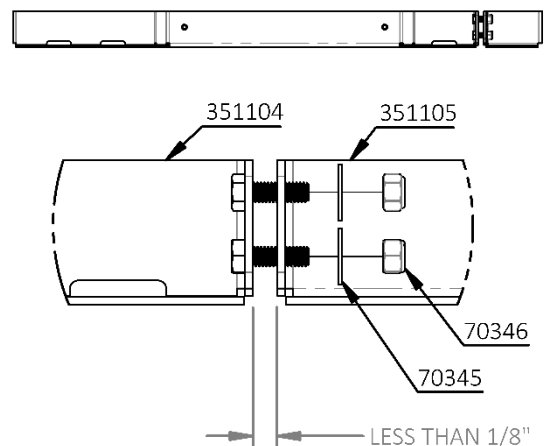

Figure 2: Tension Bar Spacing and Hardware
9. Loosely bolt the tension bar base and the tension bar bracket to the vehicle as shown in Figure 2 using the two 5/16" washers (70345) and two 5/16" nylock nuts (70346). Do **not** tighten.